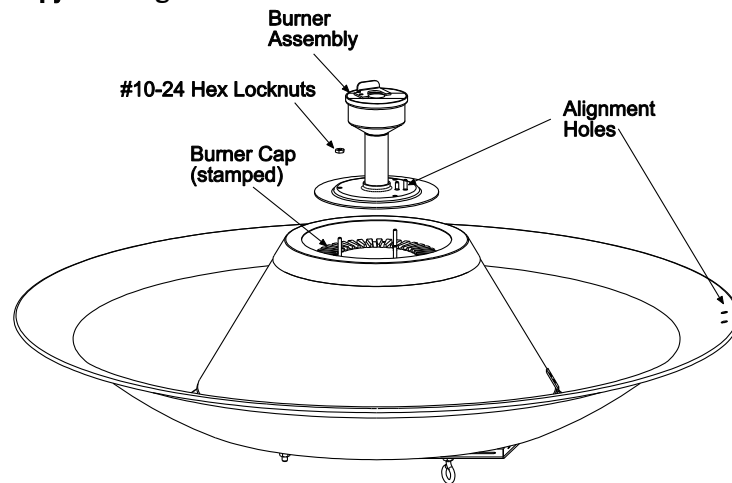

FIGURE 2
- Flip the Emitter/Canopy Assembly over. Secure the Burner Base to the Burner Cap (which is attached to the Emitter Assembly) and secure it in place using three (3) #10-24 hex locknuts from the Fastener Kit. **NOTE: Make sure that the two (2) holes located on the Burner Base are facing the two (2) holes in the edge of the Canopy.** See Figure 2.